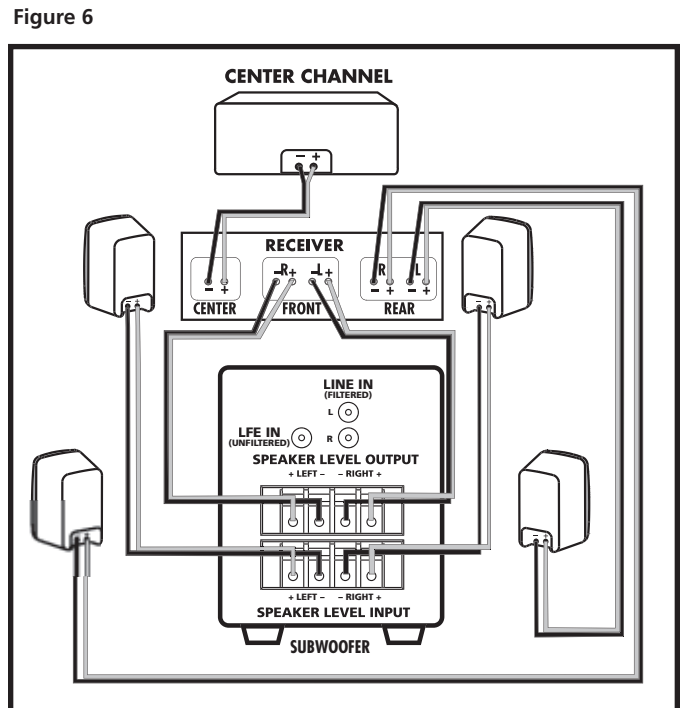

Figure 7
- If it is more convenient, parallel wire the subwoofer and front satellites from your receiver (**Figure 7**).